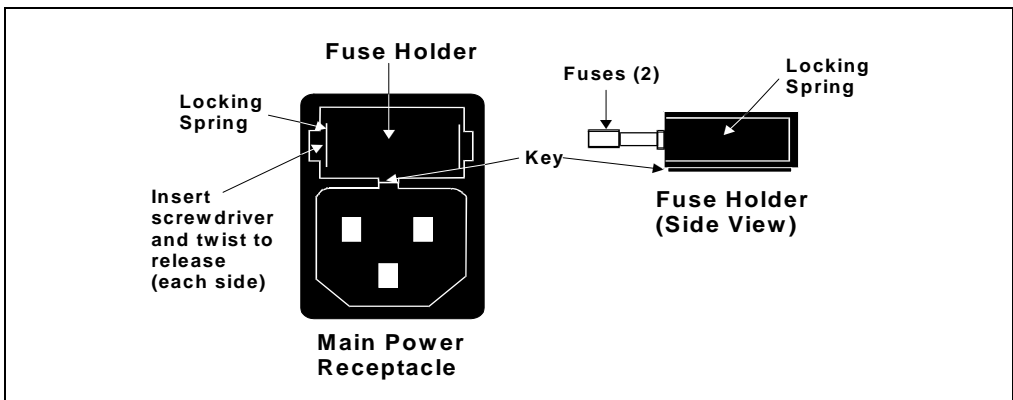

Figure 5-1. Main Power Fuse Holder
3. The fuse holder is part of the main power receptacle (see Figure 5-1). Note the recessed lock on each side of the fuse holder; now, using a small screwdriver (or your fingernails), push one of the locks toward the center to release it. The fuse holder pops out slightly when the lock is released. Repeat for the other lock. When both locks are released, pull the fuse holder straight out of the compartment.